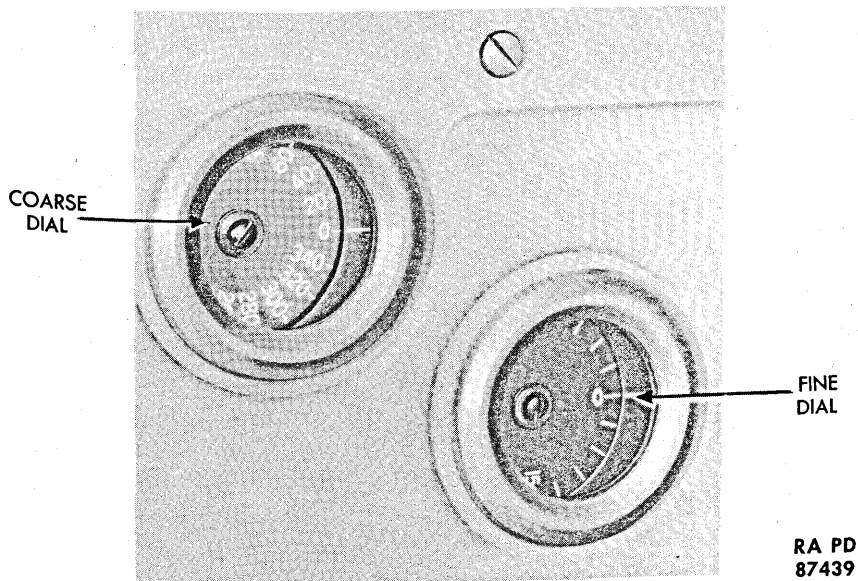

Figure 15. Azimuth dials.
a. The firing azimuth dials (fig. 15) are located beneath the azimuth telescope on the right side of the director (fig. 9). The quadrant elevation dials occupy the same relative positions on the left side of the director (fig. 9). The quadrant elevation dials occupy the same relative positions on the left side of the director (fig. 7).
b. Each set of dials consists of a fine and a course dial (figs. 15 and 16) and each dial has an index line for a reference point.